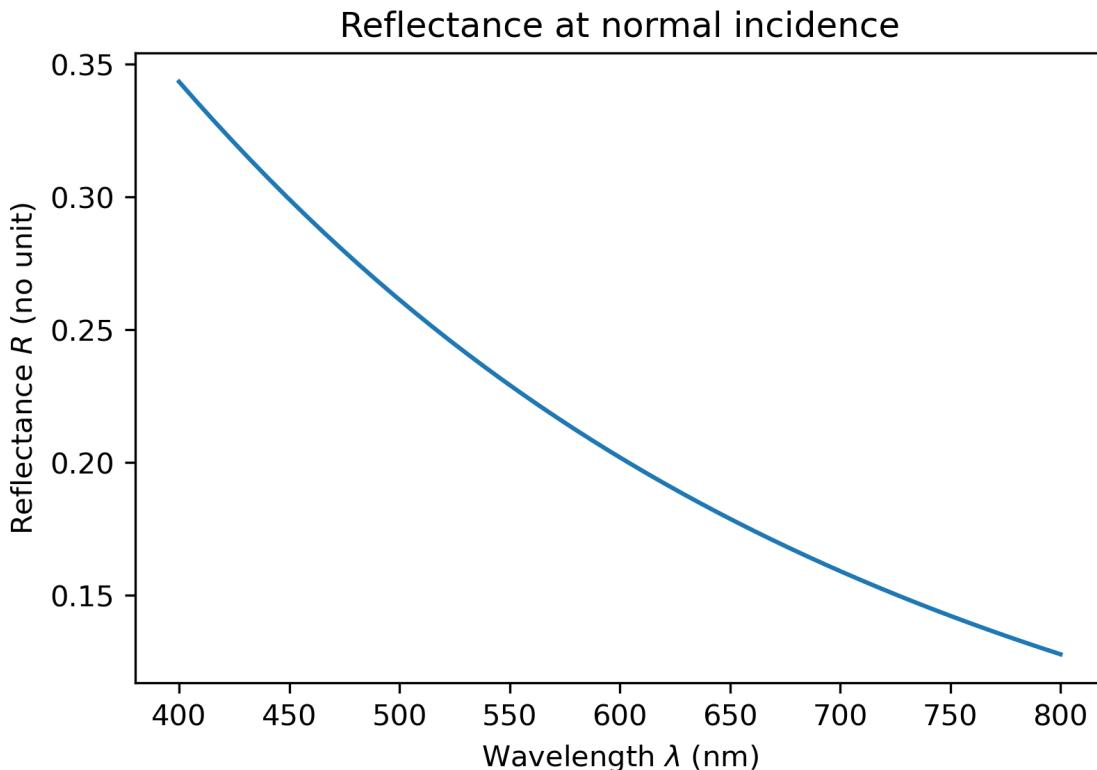

Figure 2.5: New output after changing the geometry.
- c) Why does the plot in Figure 2.5 not look quite right?